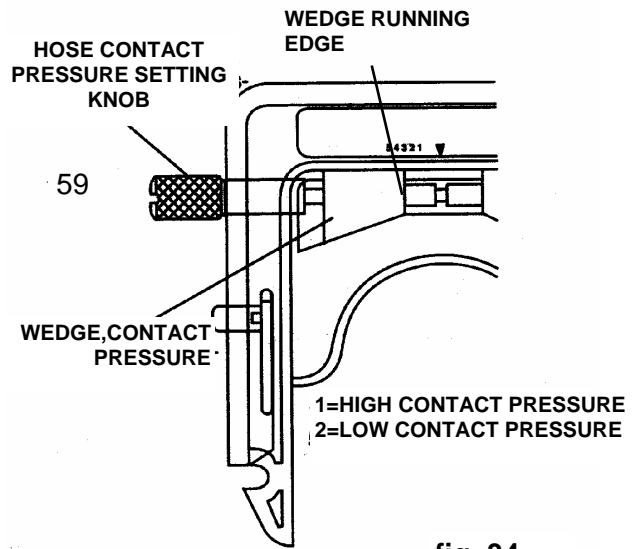

fig. 34
- Turn contact pressure setting knob (59) (fig. 34) to max. clearance (counter-clockwise); You do not need to do this work if you haven't touched the factory setting before, or contact pressure had been set for actual pumping work before.
- Adjust hose contact pressure. Turn knob (59) until inside edge of wedge is centered between #1 and #2 marks on the data plate graduation (refer to fig. 34).
With the pump running, decrease hose contact pressure adjusted before. To this end turn regulating knob (59, fig. 34) counterclockwise to displace wedges to a higher scale reading (towards 5). Go ahead turning knob (59, fig. 34) until feed rate or pressure are too low. From this point go ahead turning knob clockwise until feed rate and pressure are ok.